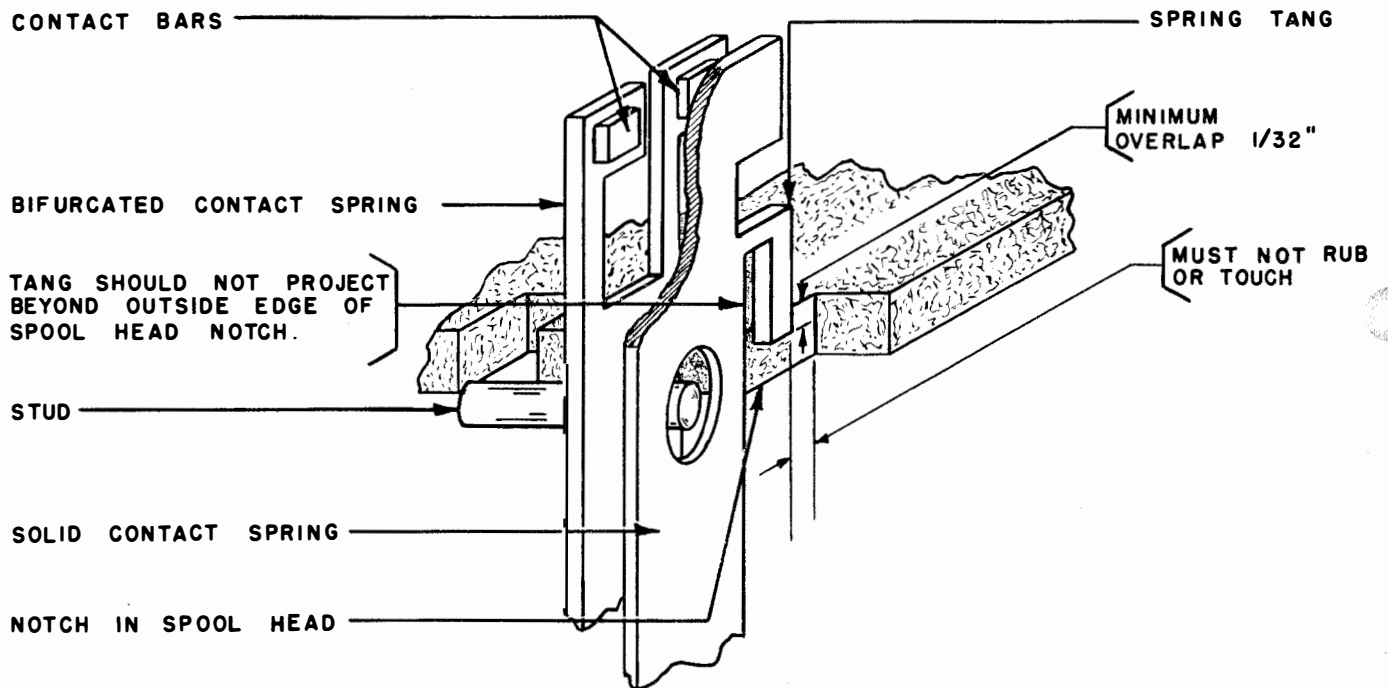

FIGURE 4
(e) The spring studs should not rub or touch the sides of the holes through which they pass during operation of the relay. (Figure 4)
(f) Spring tangs should rest on the spool head as shown in Figure 4. Gauge by eye.
4. The tension of a bifurcated spring (Figure 4) should be measured by engaging both legs of the spring at the same time.
9. Each spring designated C should have a tension of at least 25 grams against the spool head notches (Figures 4 and 6).
3. To meet these requirements, bend the tangs of the C springs involved (Figures 4 and 6).
3. With an .008" gauge inserted as above, at least one of the two normally open contacts on each spring should close (Figure 4).